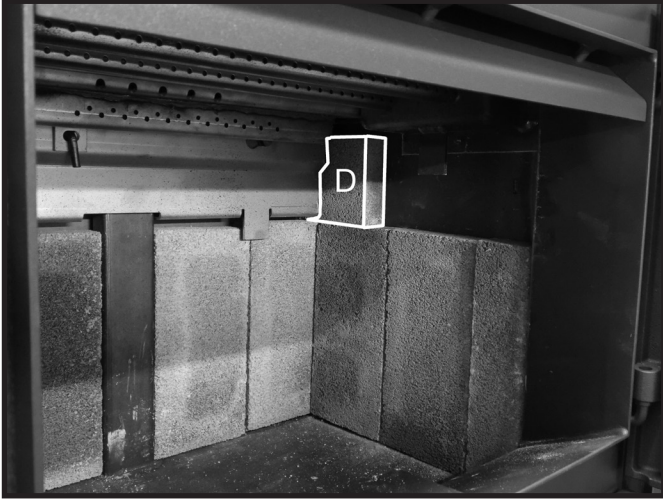

Figure 16: Small side wall firebrick in position.
- Place a "D" firebrick on top of the previously placed "A" firebricks and slide this firebrick back toward the rear wall making sure that this firebrick tucks in behind the brick rail (Figure 16).